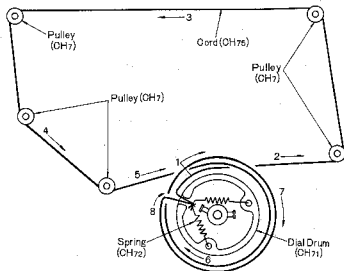

Fig. 31
2. Set dial drum at the position, as shown in fig. 31.
3. Arrows (1~8) indicate correct order and direction of cord installation, as shown in fig. 31.